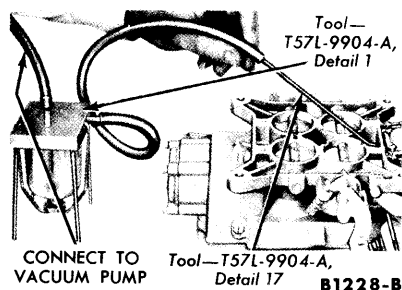

FIG. 3—Power Valve Test
2. Remove the glass bowl from the fixture (Fig. 3). Fill the bowl half-full of water. Install the bowl on the fixture.